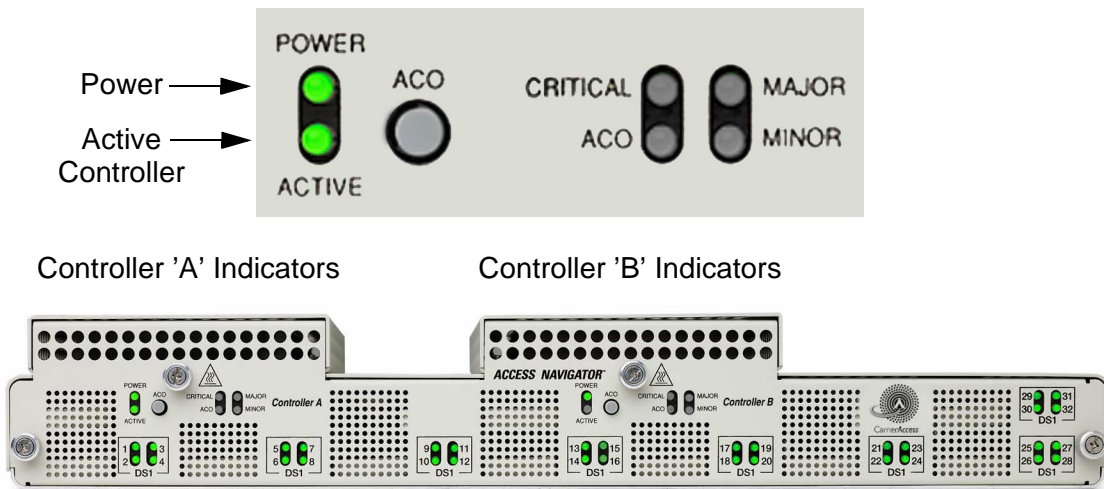

Figure 16-3. Location of Front Panel Controller Status LEDs
2. Visually verify which Controller card (A or B) is active (see Figure 16-3). The LED indicators on the active Controller should be as follows: